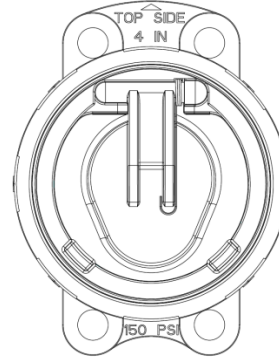

Fig. 2B: Disc, spring, and end cap inside body 2" – 8"
- 3.2.2.6 Re-install disc into body. NOTE: Spring will engage a spring retaining groove in the shaft pocket of the body as disc is installed. Be certain to insert disc shaft fully into body. (See Fig. 2B.)